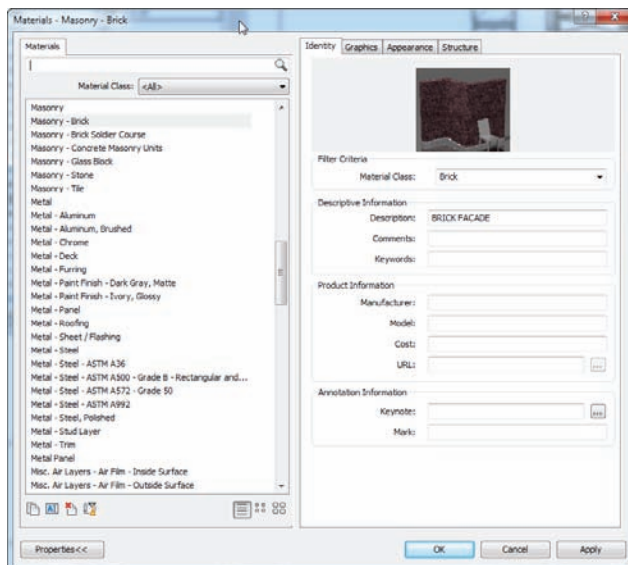

FIGURE 12.52 Changing the Description to BRICK FACADE in the Identity tab
2. Select Masonry - Brick in the list to the left, as shown in Figure 12.52.
3. On the right side of the dialog, go to the Identity tab (see Figure 12.52).